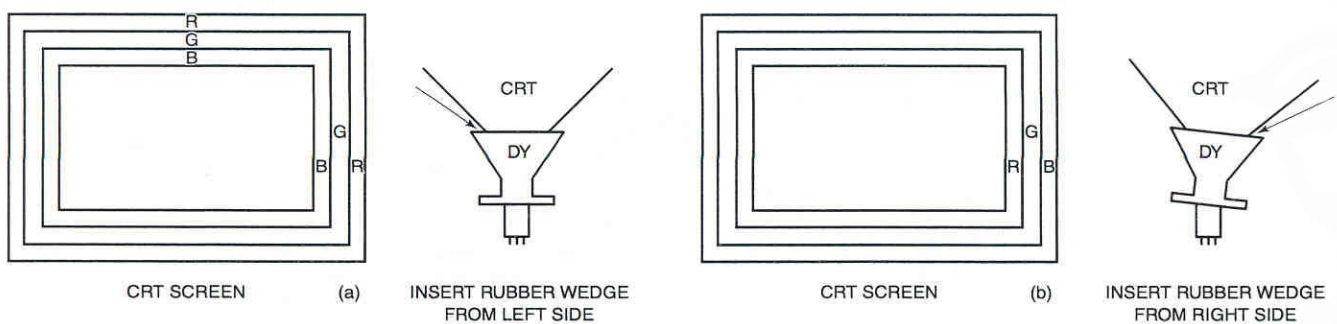

Figure 5
- 2) Tilting the angle of the yoke sideways adjusts the parallel convergence of both horizontal and vertical lines at the edges of the screen. See Fig. 5 (a) and (b).